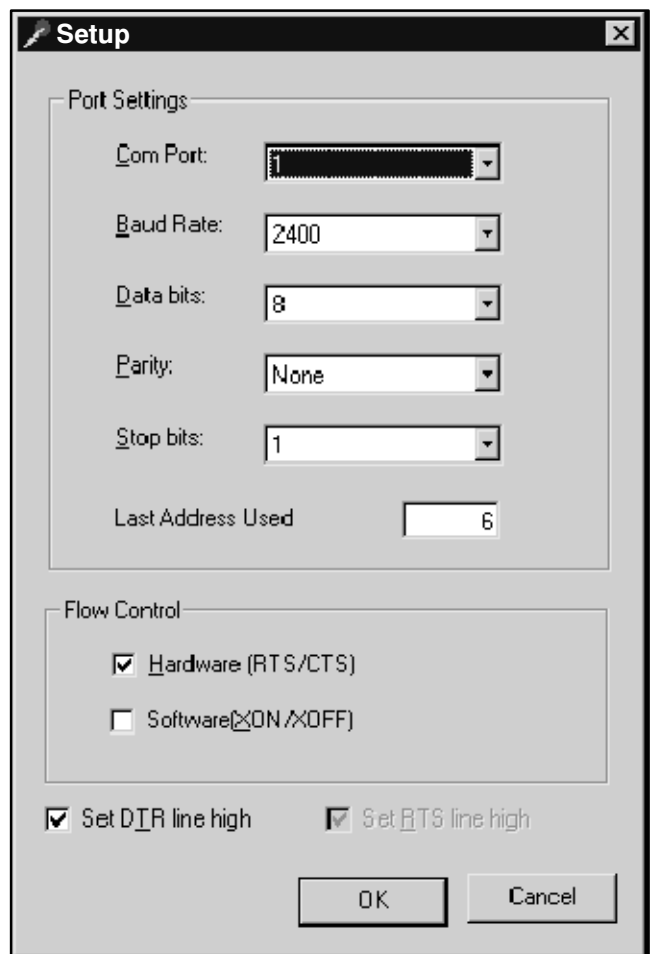

Figure 2-6 Comm Port Settings
4. Click the Comm Port Setup button. See Figure 2-6.